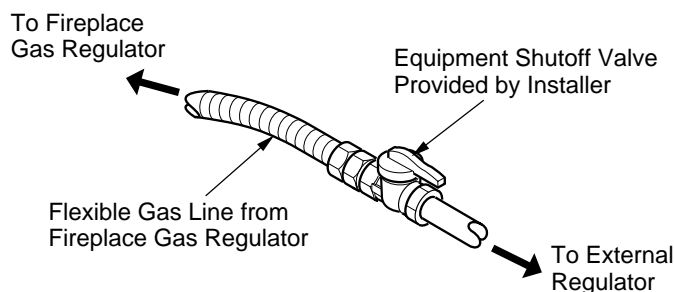

Figure 26 - Attaching Flexible Gas Line to Equipment Shutoff Valve
NOTICE: Most building codes do not permit concealed gas connections. A flexible gas line is provided to allow accessibility from the fireplace (see Figure 26). The flexible gas supply line connection to the equipment shutoff valve should be accessible.
4. Apply pipe joint sealant lightly to male threads of gas connector attached to flexible gas line/equipment shutoff valve (see Figure 26).